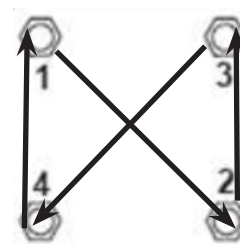

Figure 7- 4-Bolt Tightening Pattern
To torque bolts, tighten in the following increments using the tightening pattern in Figure 7: 50%, 75%, then Full Torque.
5. After the blade pitch angles have been set on both blades within 0.3° of each other, torque mounting bolts following the pattern in Figure 7 and tighten each bolt 1/8 to 1/4 turn at a time. Check blade pitch at each torque interval. Then finish torquing clamping bolts.